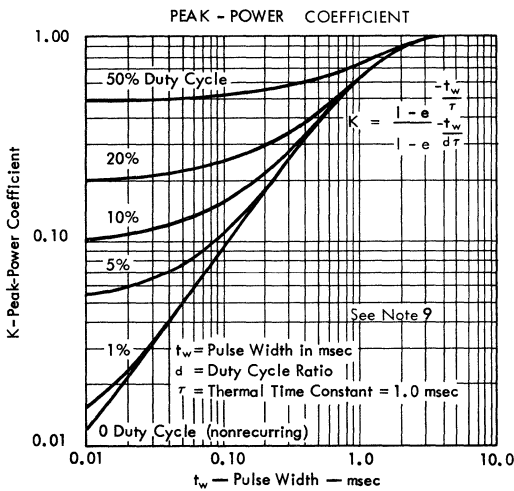

FIGURE 12
2. This value applies for a rectangular waveshape, pulse width ≤ 270 μsec, duty cycle ≤ 10%. See figure 12 for other allowable pulse width and duty cycle combinations.
From Figure 12, Peak-Power Coefficient,